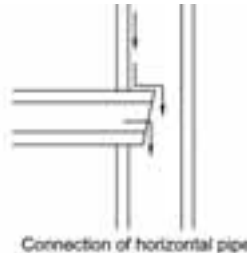

Fig. 4.26
- NO.3: Attach the horizontal pipe as shown in Fig. 4.26.